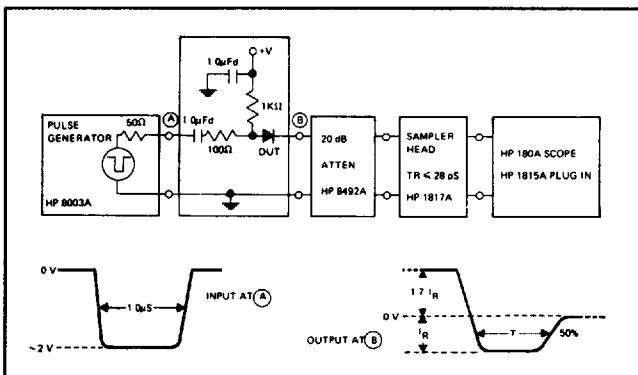

Figure 5. Transition Time,  $T_T$ , Test Set-Up
2. Measured in Circuit of Figure 5;  $I_F = 10$  mA,  $I_R = 6$  mA.